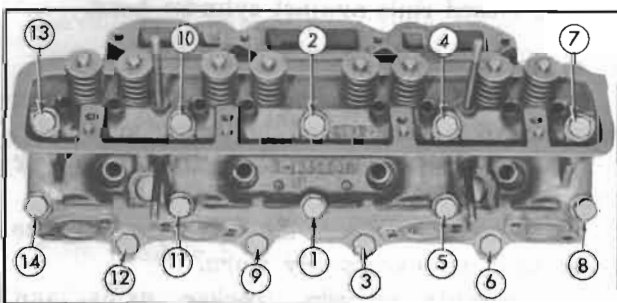

Figure 2-18—Cylinder Head Bolt Tightening Sequence
(3) After installation of cylinder head, tighten all bolts a little at a time about three times around in sequence shown in figure 2-18, then finally tighten in same sequence to 63-73 ft. lbs. torque.